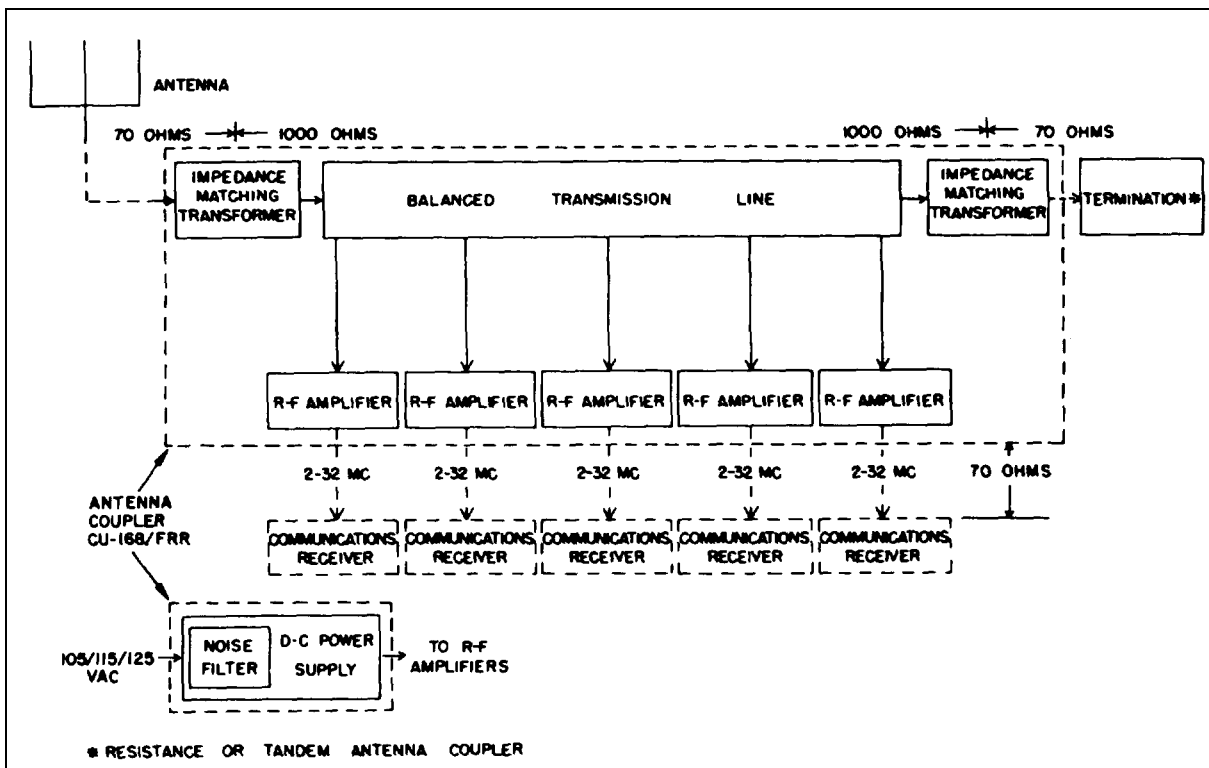

Figure 2-1. Antenna Coupler CU-168/FRR, Block Diagram
2. GENERAL CIRCUITRY. (See figure 2-1.)